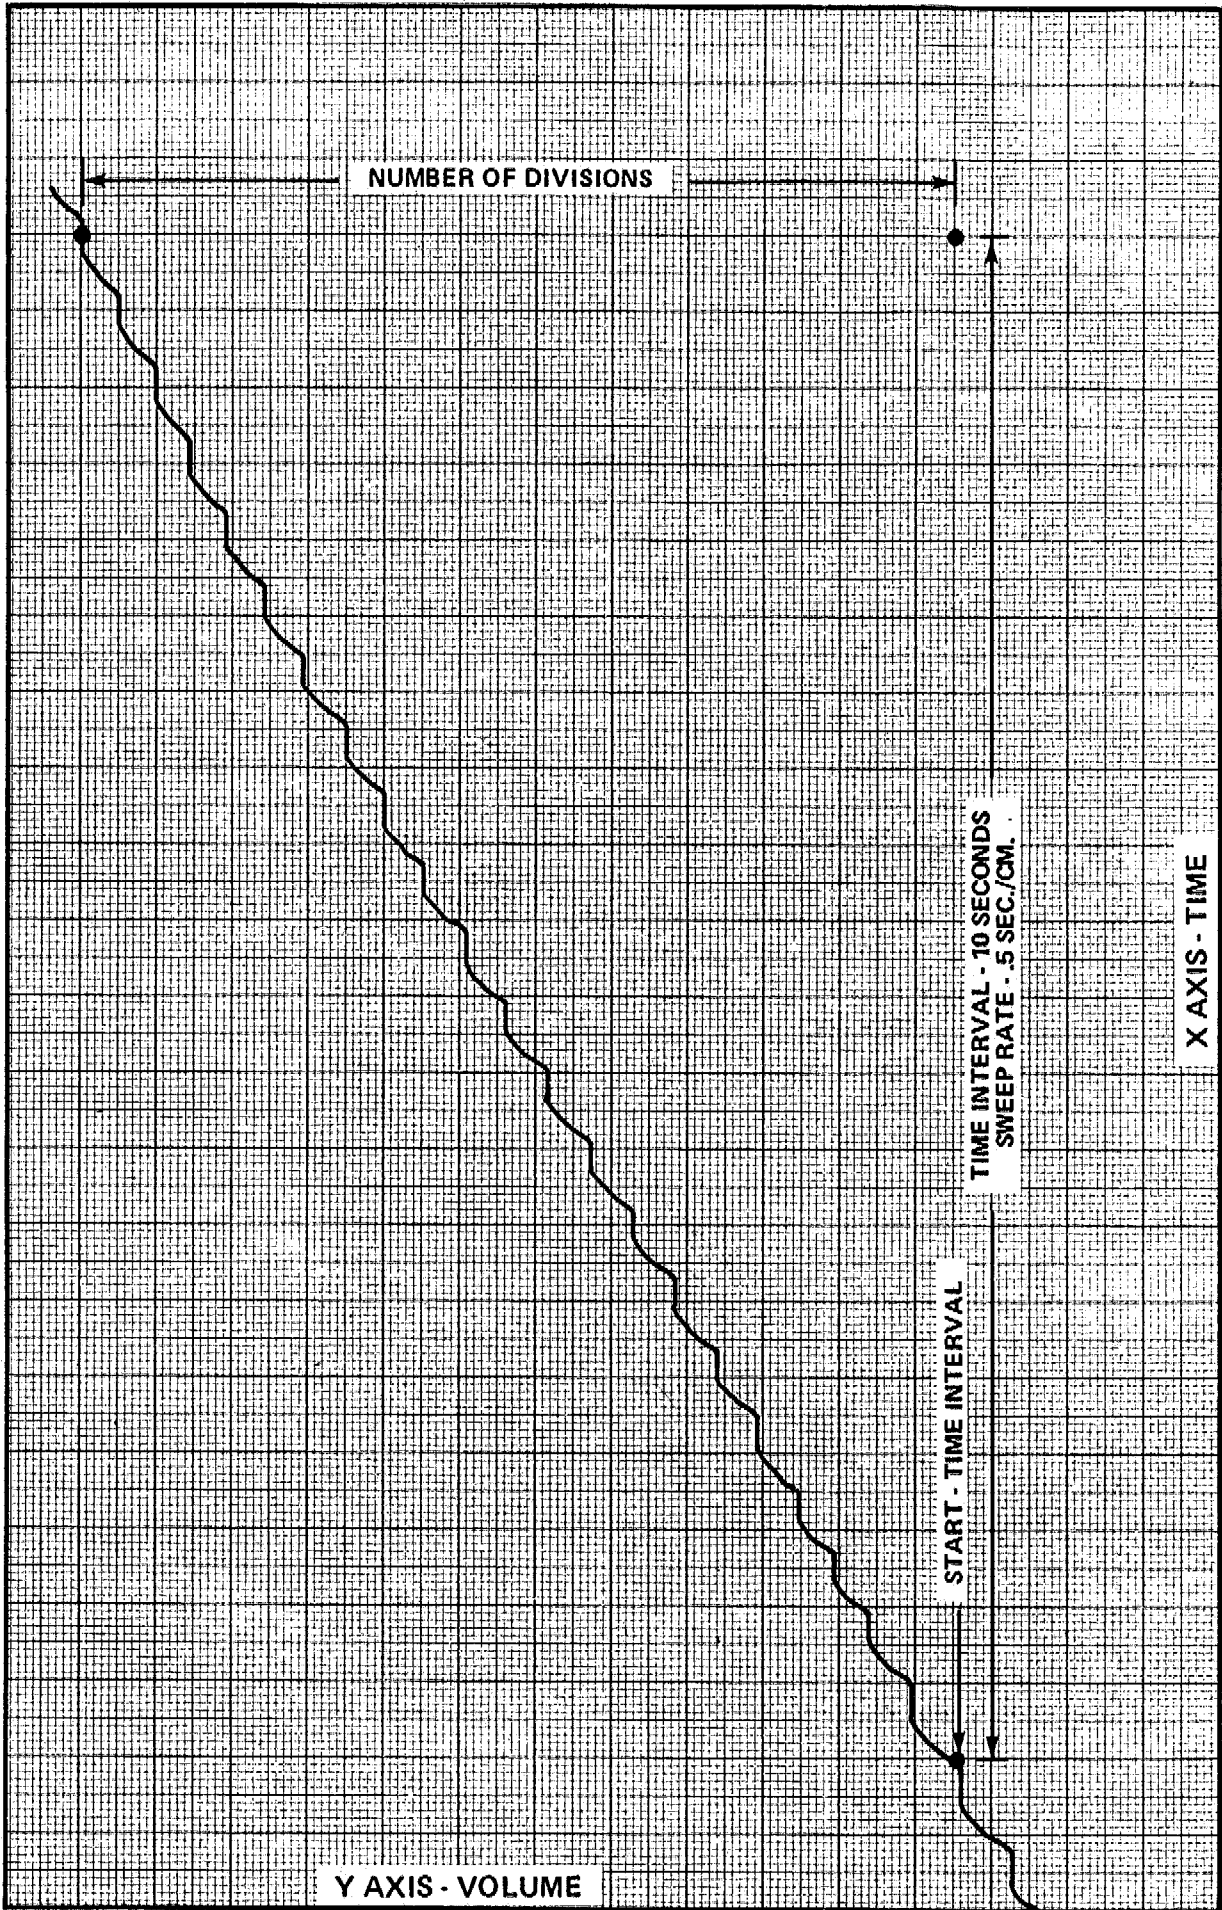

Figure 45 - Trace - MVV Test Recorded on X-Y-T Recorder
H.4. At the end of the test, the operator may easily select any specific time interval from the trace where he sees the patient was making a maximum effort. A sample MVV test recorded with the X-Y-T recorder is shown in Figure 45.
For MVV recorded on the X-Y-T recorder (refer to Figure 45):